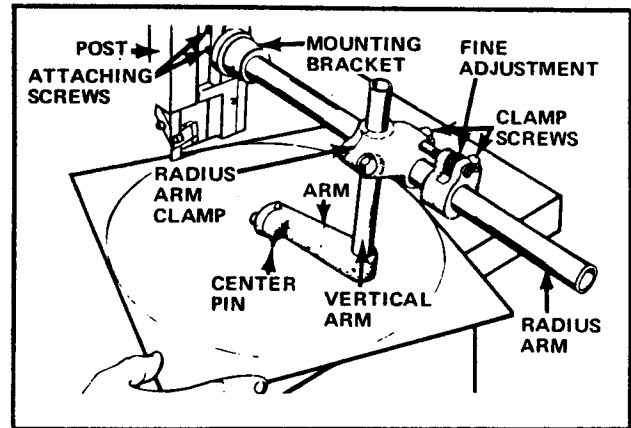

FIG. 32. CUTTING A RADIUS WITH DISK CUTTER.
- (1) Place flat washers under screws. Bolt bracket to post. Lower post until upper saw guide is approximately 3/8-inch (10 mm) above table. Loosen fine adjustment and arm clamp bolts. Move center pin to approximate distance or radius to be cut. Tighten fine adjustment clamp bolt. See Fig. 32.